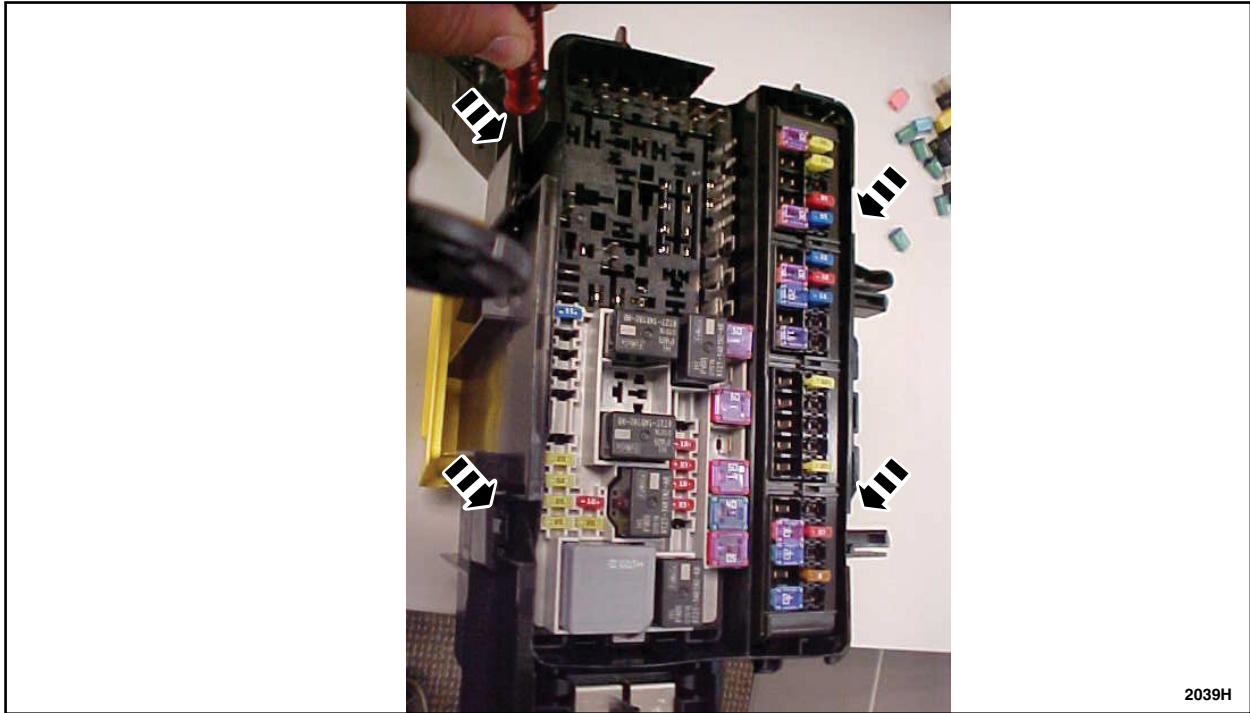

FIGURE 7
6. Using a pocket screwdriver, release the four (4) BJB tabs (two (2) on each side) and separate the upper half of the BJB from the lower half. See Figures 7 and 8.